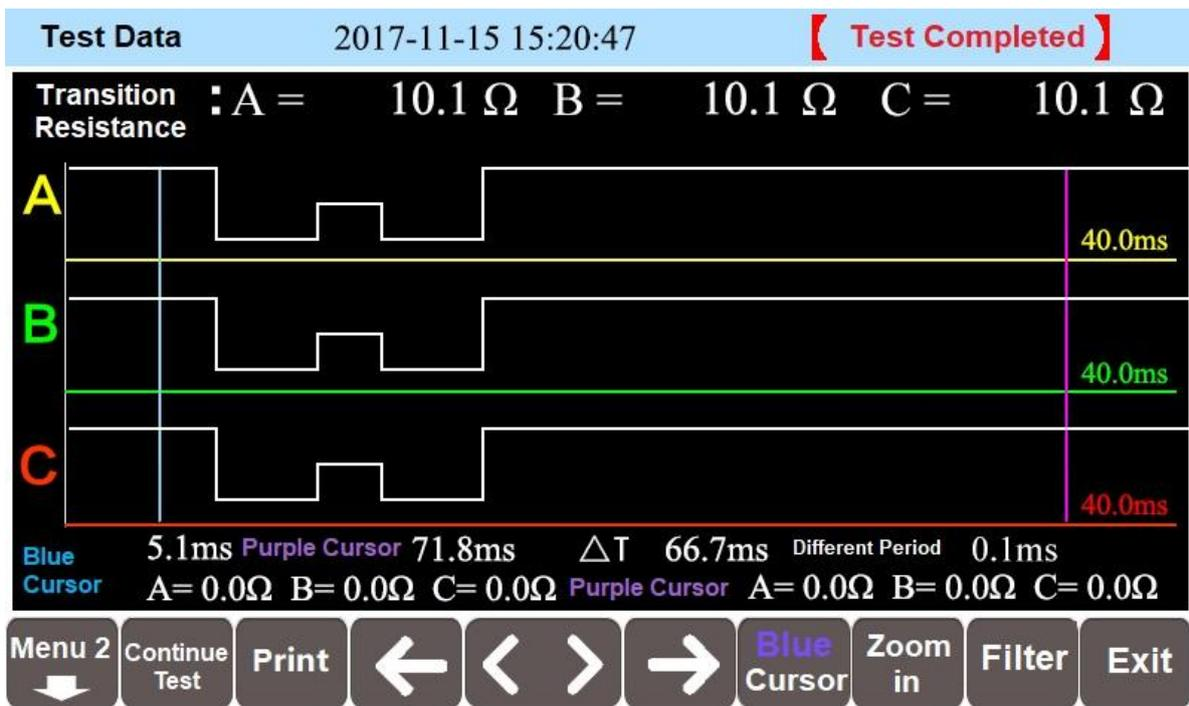
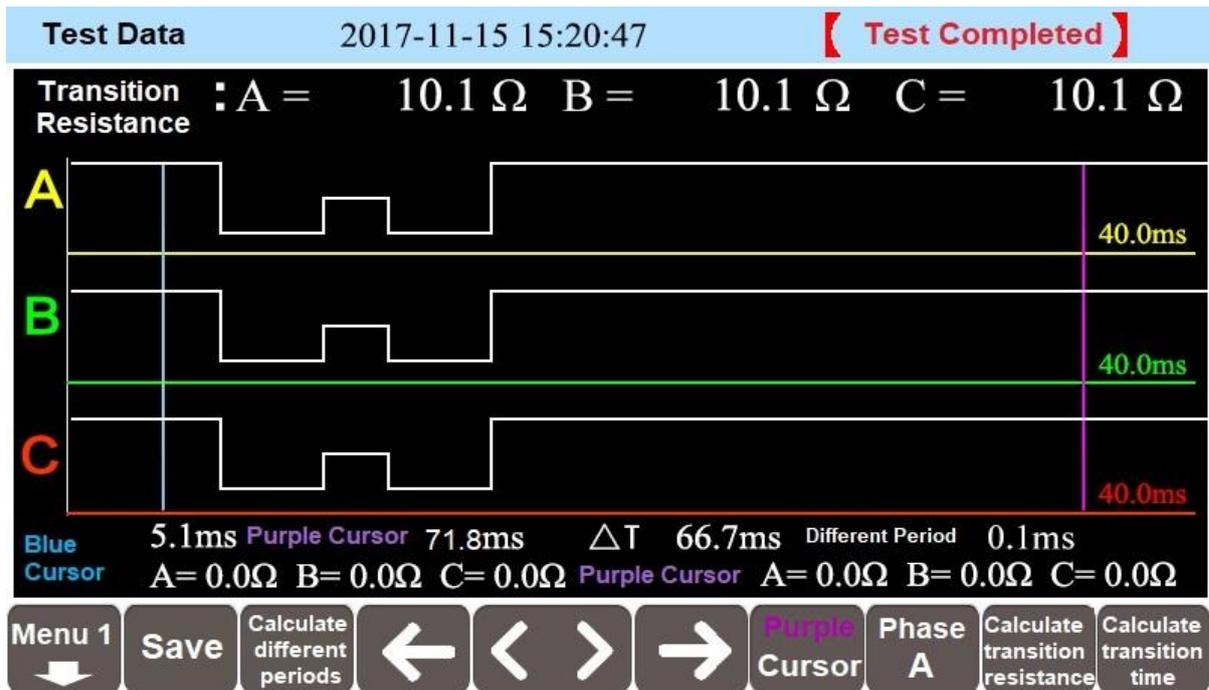

figure 6
Figure 7
- (1) Moving and switching of cursors and waveforms: there are two cursors on the waveform display interface. Lightly touch the "Waveform" button to set the "Waveform", "Blue Cursor", and "Purple Cursor" to the movable state. Lightly touch "←" or "→" below to quickly move the cursor or waveform left or right. Lightly touch "<" or ">" below to slowly move the cursor or waveform left or right.
- (2) Continuous test: lightly touch "Continue Test" to enter the test interface directly to start the next test.
- (3) Waveform zooming: lightly touch “Zoom” to zoom in and out the waveform.
- (4) Waveform storage: in Menu 2,lightly touch “Save” to store the tested waveform data in the internal memory of the instrument.refer figure 7.
- (5) Print: lightly touch "Print" to print waveforms and data.
- (6) Waveform processing: lightly touch the “Fliter” button to display the waveforms with different filtering effects.
- (7) Waveform Interception: As shown in Figure 6, tap the Wave key, switch to Blue Cursor, and press ← or → and < or > keys to adjust the blue cursor to the start of the waveform. Then click the "Blue Cursor" button, switch to "Purple Cursor" and adjust the end position of the purple cursor waveform. Press the Zoom in button to complete the intercept of the waveform.
- (8) Waveform manual selection: tap the "Menu 2" button, menu into the manual interface. Figure 7.